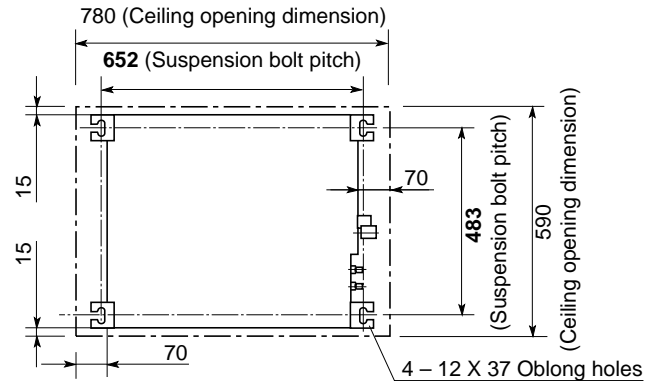
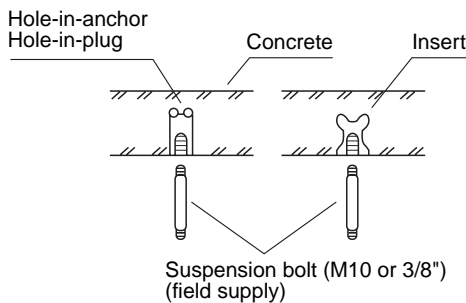

Fig. 3-2
Fig. 3-4
- (2) Follow the diagrams to make the holes in the ceiling. (Figs. 3-2 and 3-3)
- (3) Depending on the ceiling type:
- Insert suspension bolts as shown in Fig. 3-4 or
- (4) Cut the ceiling material, if necessary (Refer to Figs. 3-2 and 3-3).